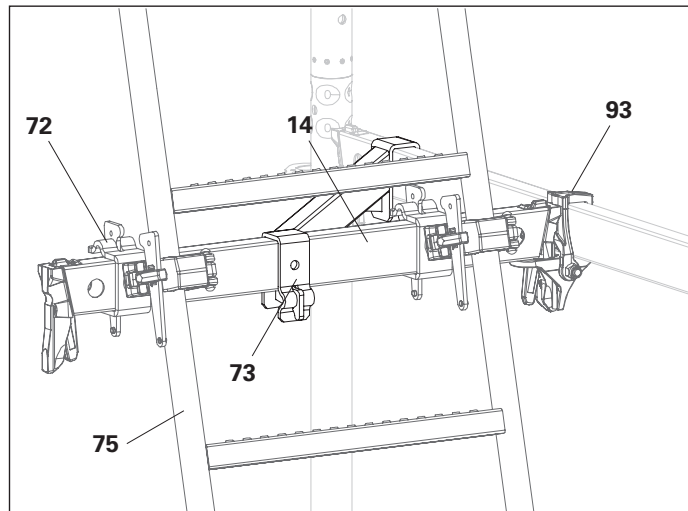

Fig. A9.07
1. Attach the Ledger-to-Ledger Coupler UHA-2 (93) and the horizontal ledger (14).
2. Install Ladder Connector Ledger UAM-W (72) or UAM-S on horizontal ledger.
3. Fit the Ladder Connector Diagonal UAD (73) to both horizontal ledgers for bracing and hammer the wedges in tight.
5. Close the ladder connectors and tighten the screws or hammer the wedges in tight. (Fig. A9.07)